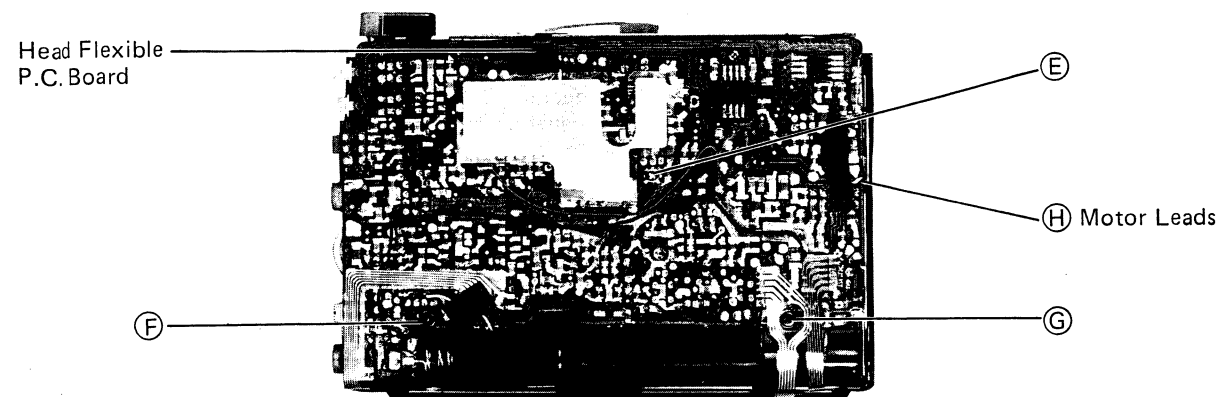

Figure 5
2. Remove three screws (E), (F) and (G). (Figure 5)
3. Unsolder Head Flexible P.C. Board and two motor leads (H), and the main P.C. Board will be removed. (Figure 5)